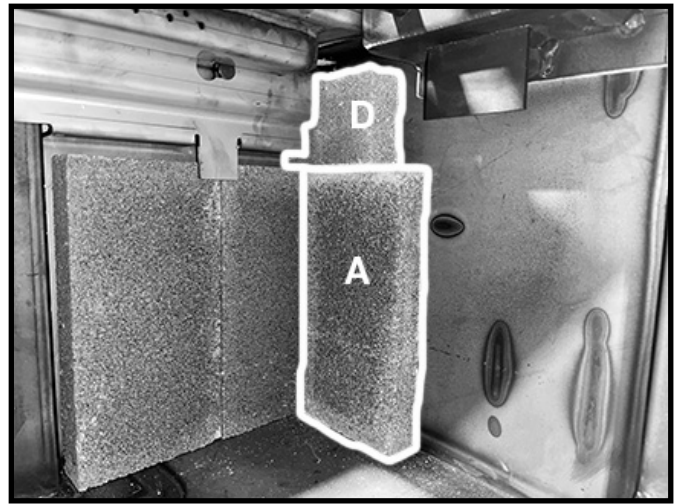

Figure 20. 1st side wall bricks in place.
4. For the side walls: Slide a "D" firebrick up into the back corner of the firebox then, while holding it in place, stand an "A" firebrick against the side wall under the "D" firebrick and up against the rear wall firebrick Figure 20.